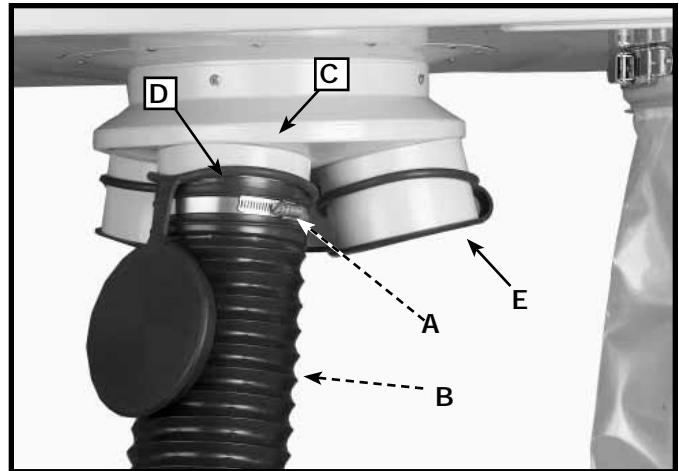

Fig. 13
**NOTE:** Place open end (D) of intake cap rings around and onto ends of each dust intake port before attaching the hose.
To assemble the 5" dust collection hose (not included) to the motor and blower assembly, loosely attach hose clamp (A) Fig. 13, around one end of flexible hose (B) and assemble the hose to dust intake port (C). Tighten hose clamp (A). Assemble the remaining clamp to the other end of the flexible hose and to the woodworking machine.
**NOTE:** Do not operate the dust collector with any of the holes in dust intake port (C) Fig. 13 uncovered. To cover a hole not being used by a hose, place the flat intake cap (E) on dust intake port as shown in Fig. 13.